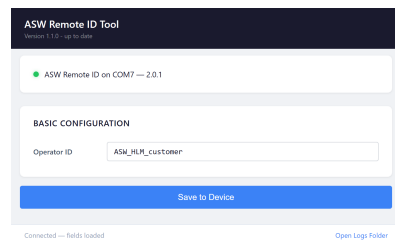

Fig. 2 – ASW Remote ID Tool
- Launch the tool. The transmitter will be auto-detected and the current Operator ID displayed (Fig. 2)